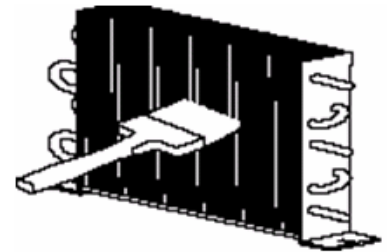

Figure 2
11. CLEANING OF THE CONDENSER (Figure 2)